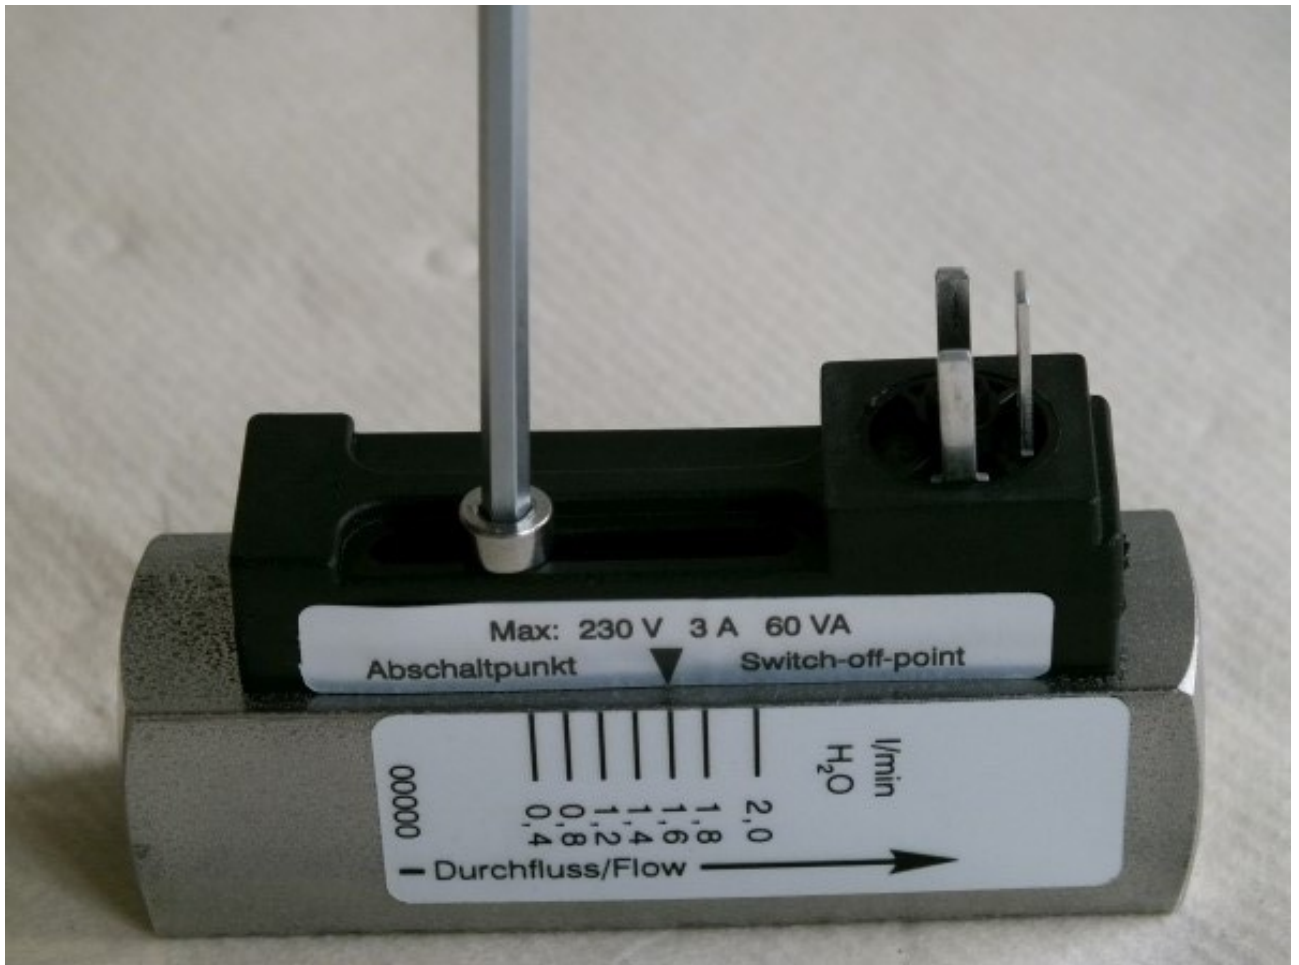

Fig. 52: Loosen set screw
3. ➡ Loosen and remove the switch contact set screw (Fig. 52) using the appropriate sized hex screwdriver.